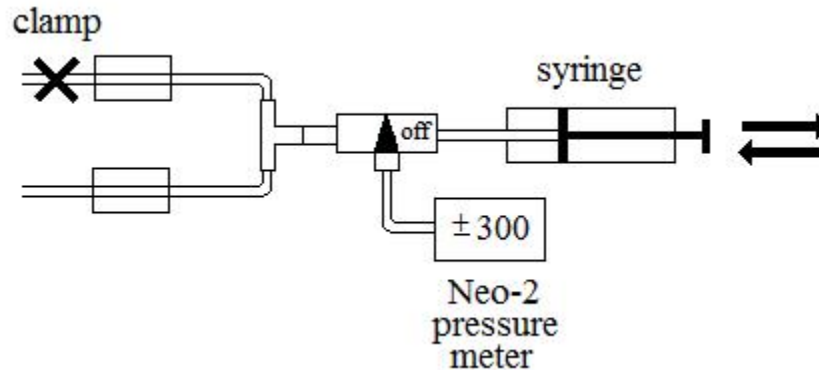

Figure 2 - Setup for Dialysate Pressure Transducer Calibration
- The setup diagram is shown below in Figure 2: